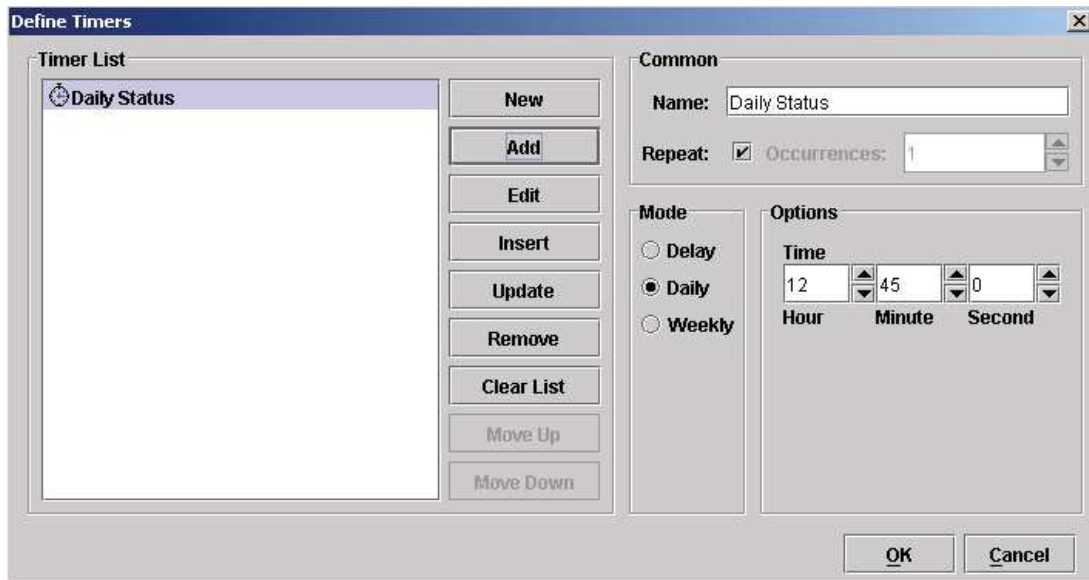

Figure 223 Setting a Daily Timer
6. Click **Add**. The Daily Status timer is added to the Timer List. See Figure 223.